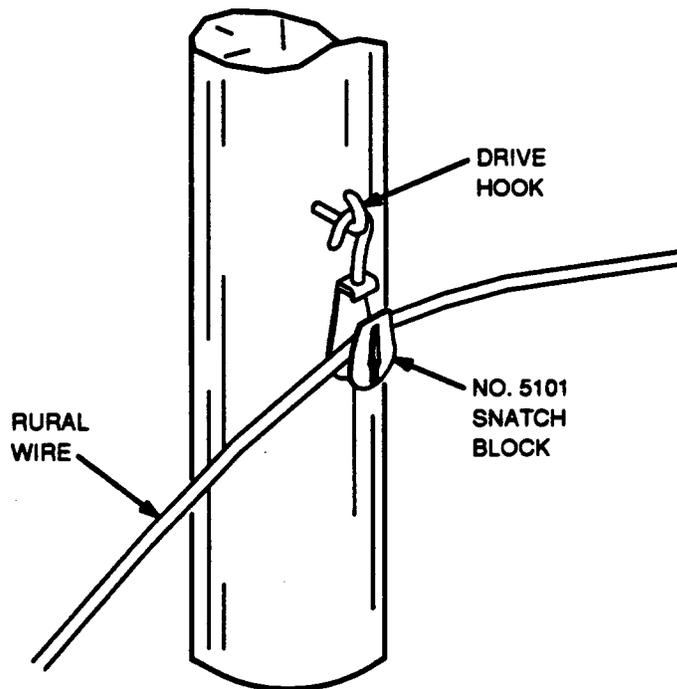

Figure 2. Wire Placed with Snatch Block
4.02 When placing C rural wire from a moving reel, the wire may be lifted with a wire raising tool and laid over a drive hook. At corners where the wire pulls against the hook (inside corners) and at poles where downward change in grade exceeds 10 percent, support the wire during placing and sagging with a 5101 snatch block attached to the drive hook. (See Figure 2.)
4.03 The C rural wire may be pulled over drive hooks from a stationary reel except at corners where the wire pulls against the hook and at poles where the downward change in grade exceeds 10 percent. At such locations, support the wire during placing and sagging with a 5101 snatch block as shown in Figure 2. Prevent the wire from dragging over obstructions in the span by use of a wire payout reel equipped with a B reel brake placed between the wire supply reel and the first pole of the wire run. A single turn of wire is made around the payout reel, and tension is maintained by the reel brake. Do not pass the wire through the loop on the reel brake tension arm.